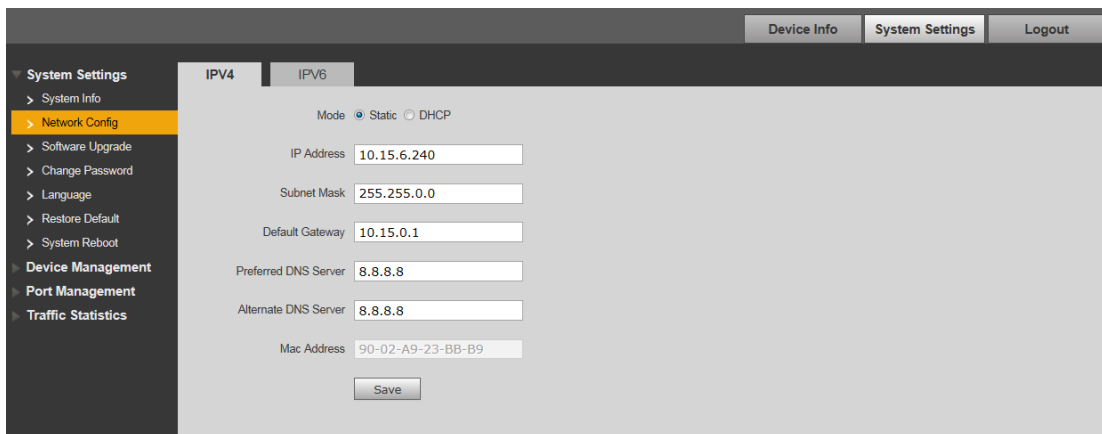

Figure 3-4
Step 1 Select “System Settings > Network Config”, the system will display the interface which is shown in Figure 3-4 below.